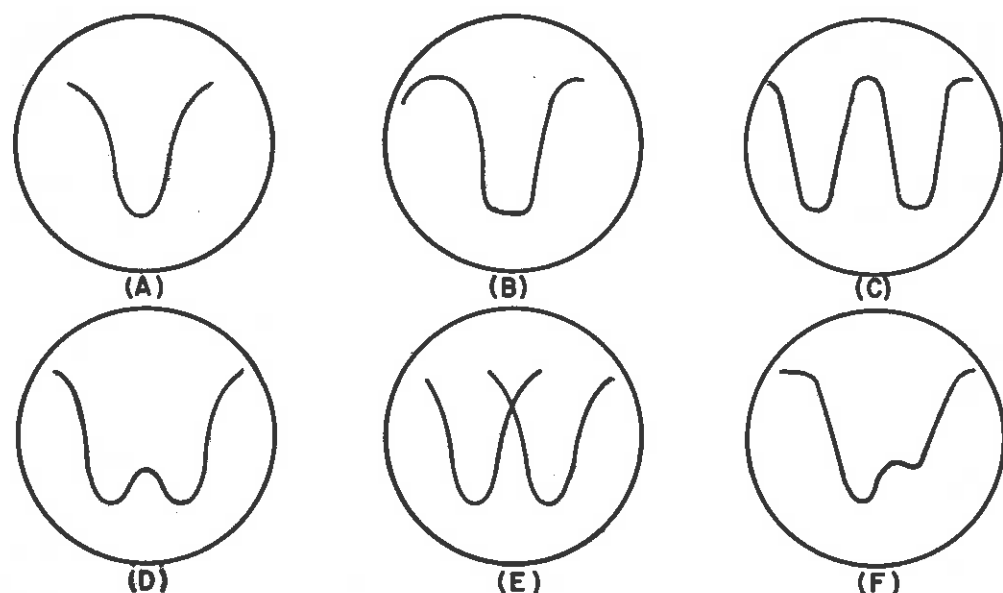
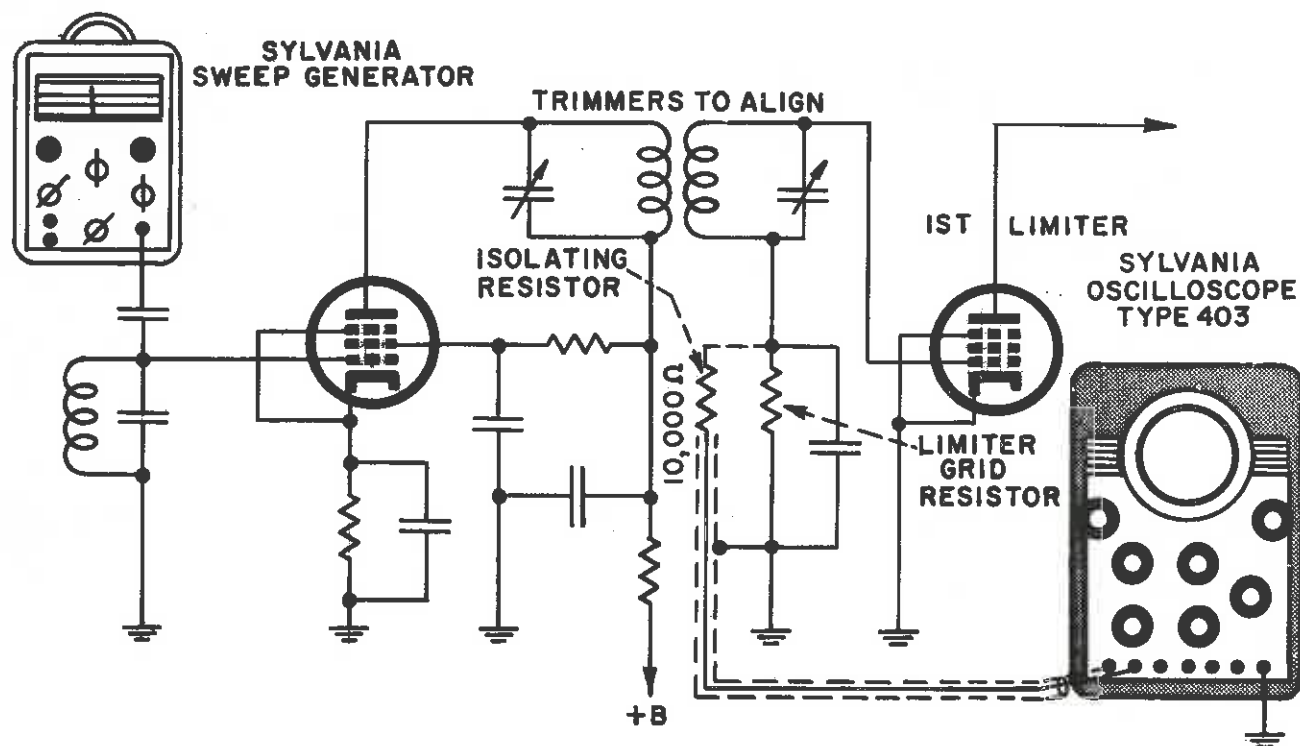

Fig. 14—Selectivity curve of i-f stages obtained using a sweep signal generator.
Fig. 15—Oscilloscope connections for i-f amplifier alignment in an f-m receiver.
The selectivity curve will resemble one of the curves shown in Fig. 14. The trimmers should be adjusted until the curve has the general appearance of Fig. 14 (A) which is neither too broad or too sharp.
The next operation is to align the r-f section. The frequency of the sweep signal generator and the receiver are both set to 1500 kc. and the trimmers on the r-f and oscillator sections of the tuning condenser are adjusted until a selectivity curve similar to the curve of Fig. 14 (A) appears on the screen. The sweep generator and receiver are then set to 600 kc. and the padders of the tuning condenser are adjusted instead of the trimmers. The selectivity curves of the individual stages may be observed by using a detector probe connected to the VERT. IN. terminal of the oscilloscope. In this way the various stages can be aligned independently, which is sometimes very advantageous.
To insure a high-frequency pass band, it is necessary to obtain a curve (pattern) with a top as straight and horizontal as possible. The flat top must be obtained without causing too much loss of height, or producing top tilting such as is illustrated by the pattern in Fig. 14 (F).
D. **Discriminator-Type Receiver.** The i-f circuits are aligned by connecting the VERT. IN. terminal to the high side of the first limiter grid resistor through a short shielded lead as shown in Fig. 15. An isolating resistor of approximately 100,000 ohms is sometimes used as the connection to the circuit. The output of a sweep signal generator is connected to the grid of the last i-f-tube. The frequency of the signal is the same as the intermediate frequency of the receiver and the frequency deviation is set to approximately plus and minus 150 kc. for a total sweep of 300 kc. The receiver manufacturer's service notes should be consulted for the exact value of intermediate frequency. The trimmers of the last i-f stage should be adjusted to obtain a pattern similar to that of Fig. 14 (D). The bandwidth of the i-f amplifier is somewhat broader than it would be in an a-m receiver and, therefore, the sharp curve of Fig. 14 (A) will not be satisfactory.
The sweep generator output lead is next transferred to the grid of the next previous i-f stage and the trimmers of this stage adjusted until the selectivity curve again matches the curve of Fig. 14 (D). The signal is fed to the grid of each i-f stage until the grid of the converter stage is reached and the procedure repeated for each stage.